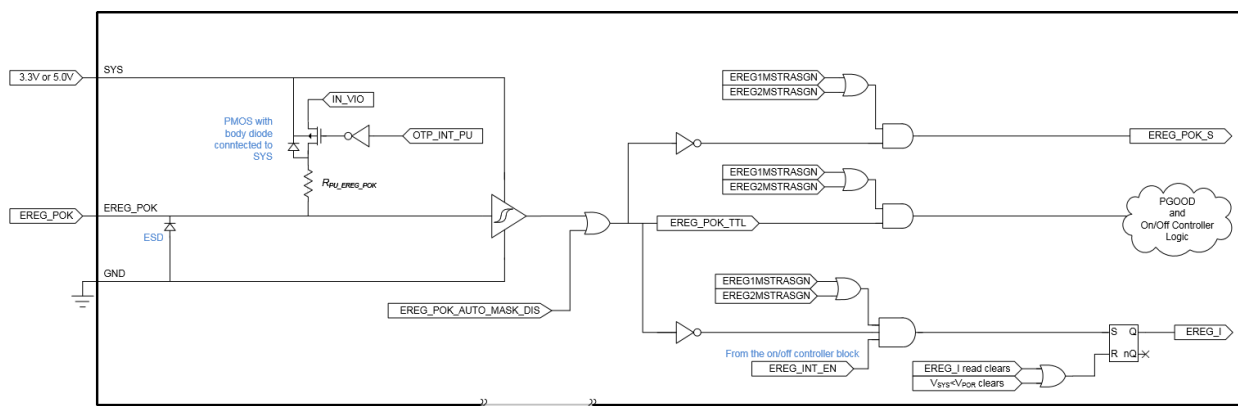

Figure 2. External regulator logic.
- The functional logic for EREG_POK is shown in the figure below (Figure 2). See the Register Descriptions section for additional details on the bit descriptions.
Figure 2 shows how the external regulator's POK signal is handled logically.